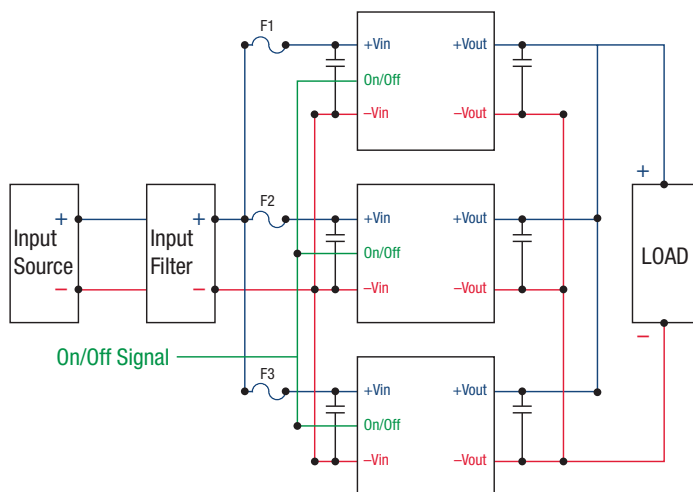

Figure 2. Load Sharing Block Diagram
Two or more converters may be connected in parallel at both the input and output terminals to support higher output current (total power, see figure 2) or to improve reliability due to the reduced stress that results when the modules are operating below their rated limits. For applications requiring current share, follow the guidelines below. The output voltage will decrease when the load current is increased. Our goal is to have each converter contribute nearly identical current into the output load under all input, environmental and load conditions.
- It is required to use a common Remote On/Off logic control signal to turn on modules (see figure 2).